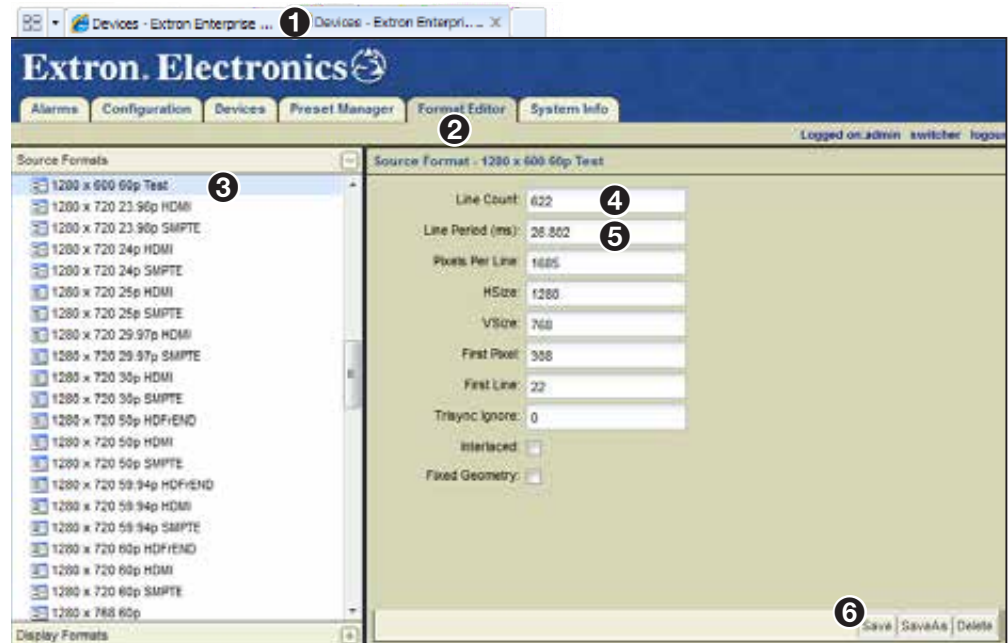

Figure 131. Enter Values Into the Source Format Editor Page
21. On the right tab (see figure 131, ①) and the Format Editor (②), make sure the new source is selected from the Source Formats (③) panel and enter the values from step 20 into the Line Count (④) and Line Period (ms) (⑤) fields on the right panel (Source Format – 1280 x 600 60p Test) (③).